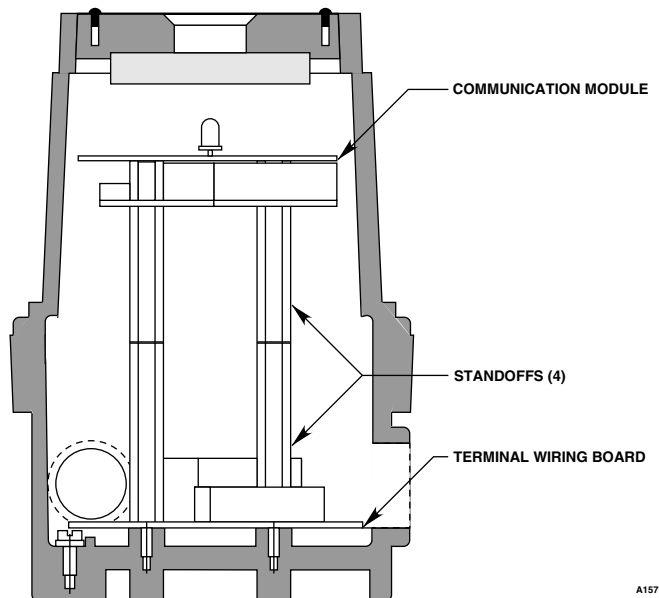

Figure 3-40—Printed Circuit Boards in Universal DCU
2. A communication module mounted above the terminal wiring board using the standoffs provided. See Figure 3-40.
Attach the communication module to the standoffs as shown in Figure 3-40. Connect the ribbon cable from the terminal wiring board to the communication module.
5. Connect all external wiring to the terminal wiring board inside the DCU (if not already completed). Re-assemble the DCUEX as described in the “Wiring” section. When completed, it should look similar to the DCU as shown in Figure 3-40.